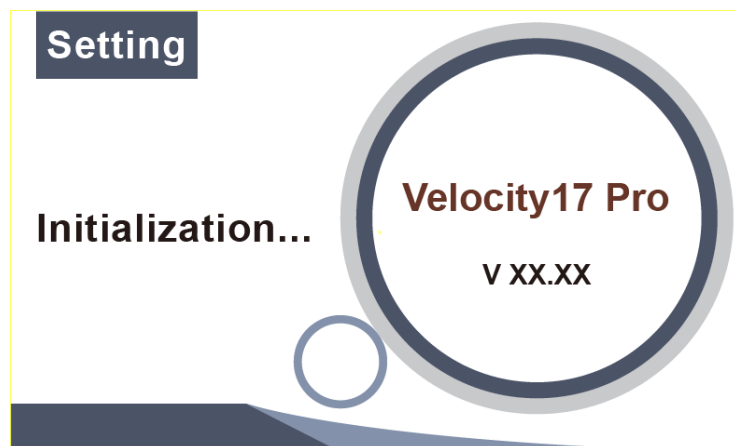

Figure 7-1 Initialization interface
■ The screen displays a initializing interface and shows the accumulative total running time, in the meantime, this centrifuge starts a self-checking process for preparation. (see Figure 7-1).